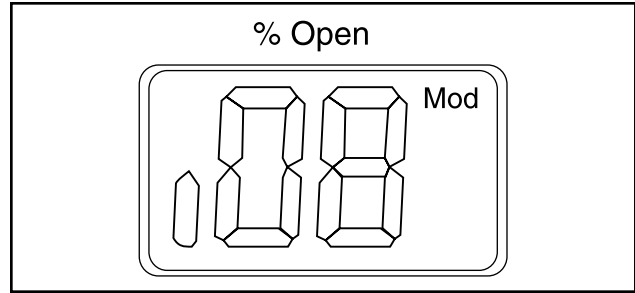

Figure 23
- Gives access to the Parameter list by keeping the push button activated for 2 seconds. A Parameter list example is shown below (parameter i08, Figure 23).
- Normally the Opening Degree (OD) 0 - 100% of the ICM valve is displayed. No activation of push buttons for 20 seconds means that the display will always show 0 (Figure 23).